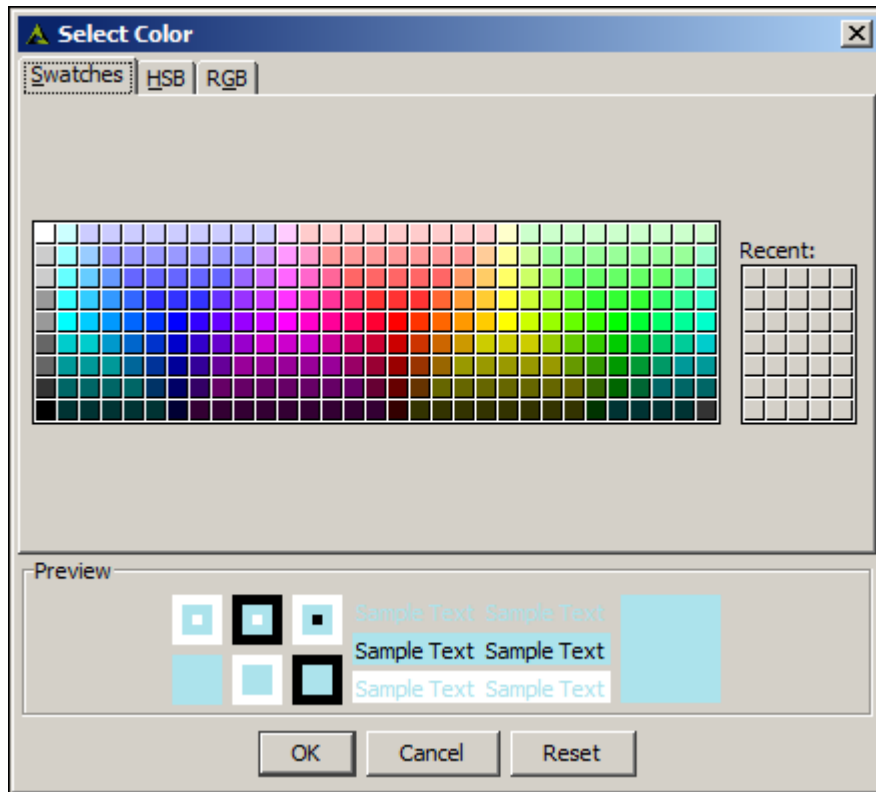

Figure 44: Select Color
- The **Select Color** screen is displayed (see Figure 44).